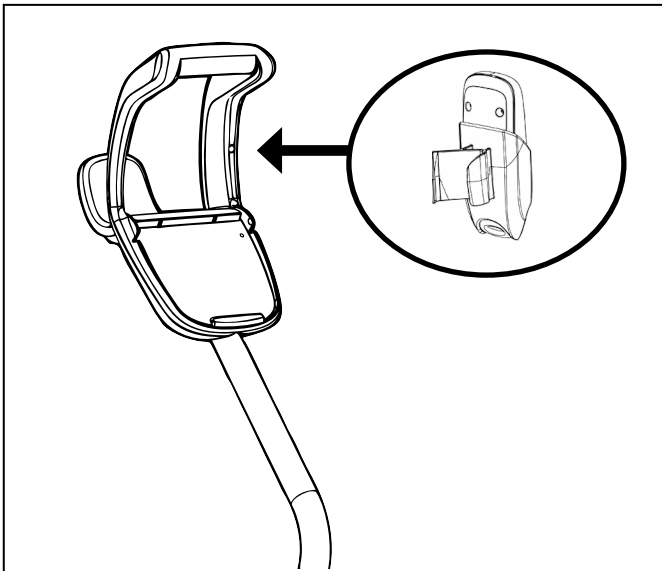

Figure 8. Snap Remote Control Holder into Place
9. (9500 Sport/P95) Locate pin on the remote control holder and align it with the receptacle on the handle of the caddy to attach the remote control unit to caddy (Figure 8).